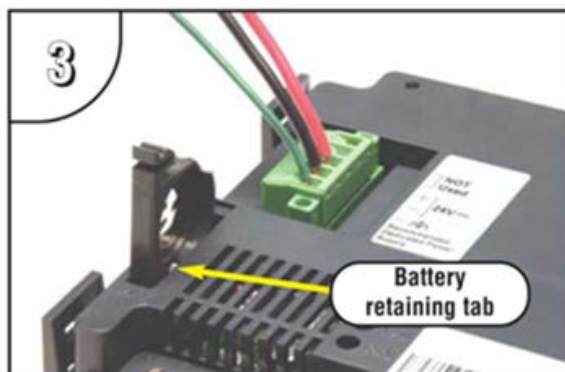

FIGURE 1.19-4: RETAINING TAB
- 6) Insert the new battery with the positive (+) side to the right. Set the battery inside the retainer tab (Figure 1.19-4), and press the top in to the holder.